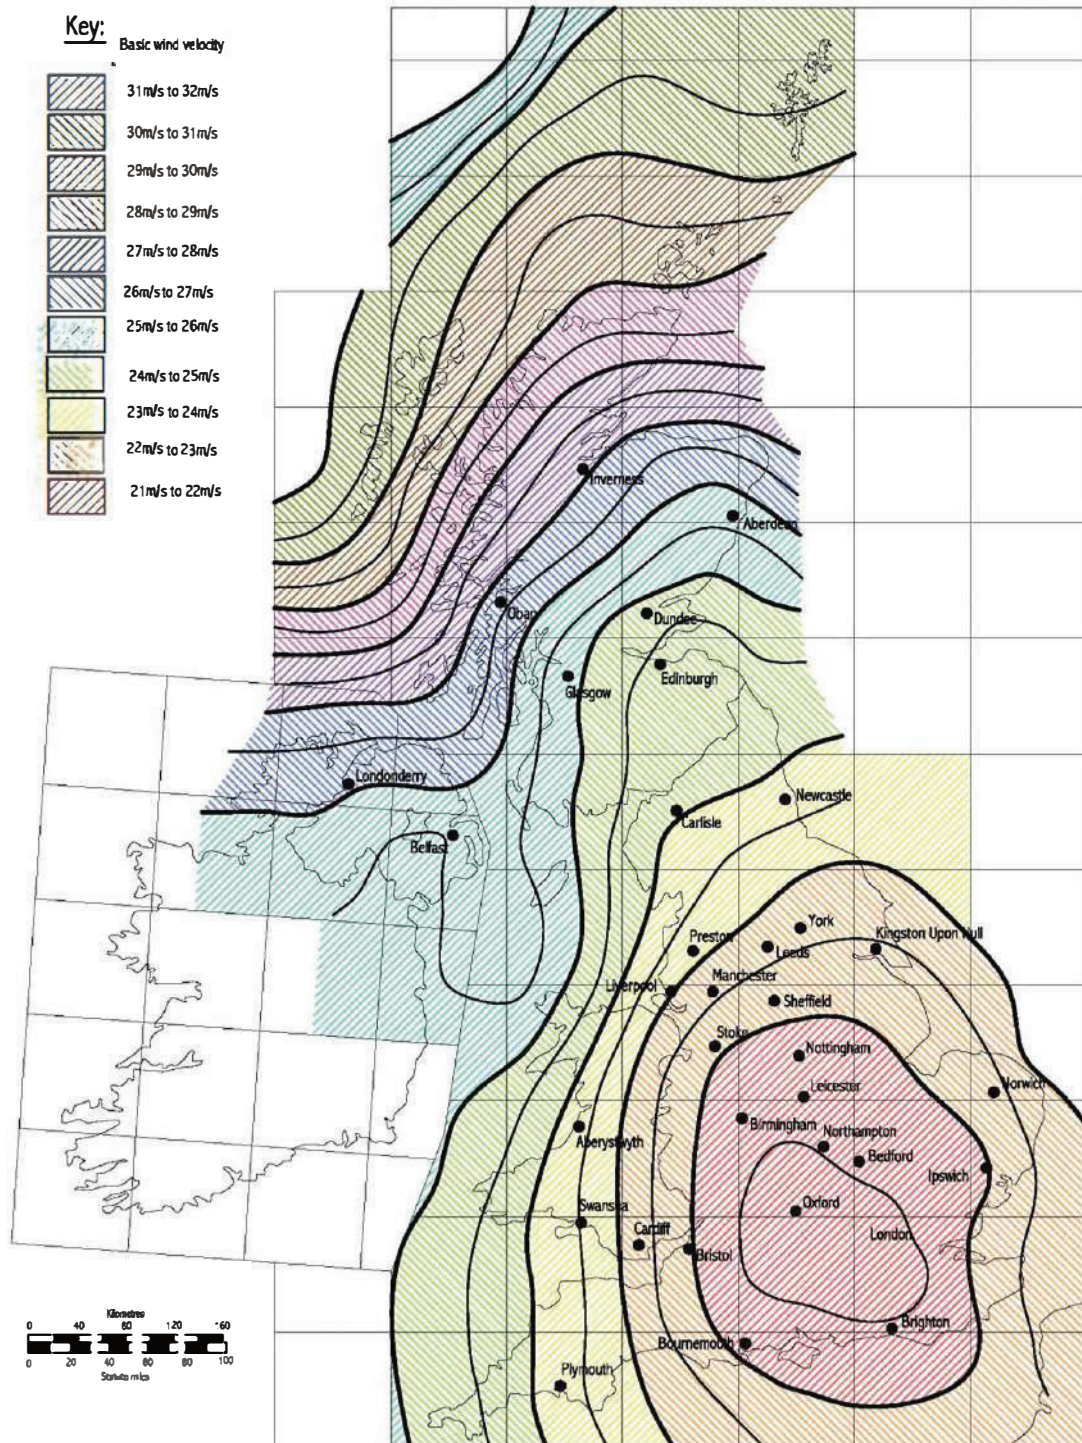

Fig 1. Value of fundamental basic wind velocity map, $v_{h,map}$
- Basic wind velocity, (see Fig 1)
The wind map below (Fig 1) shows the "fundamental values of basic wind velocity" in m/sec before an altitude correction factor, directional factor, seasonal factor and probability factor has been applied